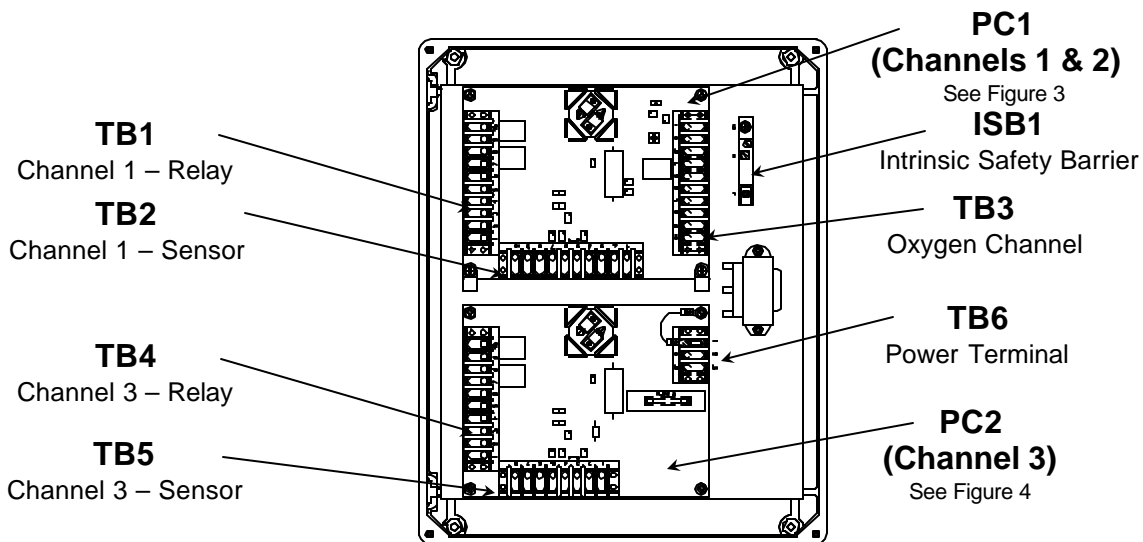

Figure 2: Internal Circuitry Features of the ISA-44-2-OD
The **ISA-44-2-OD** has two similar circuits (printed circuit assemblies PC1 and PC2, see Figure 2) with related sensors. Each of these circuit-sensor combinations makes up a separate channel of gas detection. The combustible gas detection circuit is on PC2; the toxic gas detection circuit is on PC1. A third circuit-sensor combination on the right-hand side of PC1 comprises the oxygen deficiency channel.
See **Figure 2, 3 and 4** for interior location of **ISA-44-2-OD** circuit boards, terminal blocks, etc.
3. Open the control unit. Remove the terminal strip cover from TB-6 (see **Figure 2** and 4). Simply pull the cover off the holding prongs.